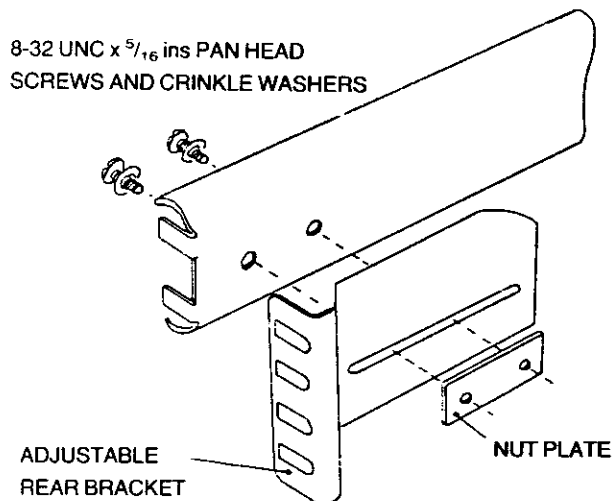

Fig. 2.5 Fitting a rear bracket
3. Fit the following items to the telescopic slide outer members, as shown in Figs. 2.5 and 2.6: